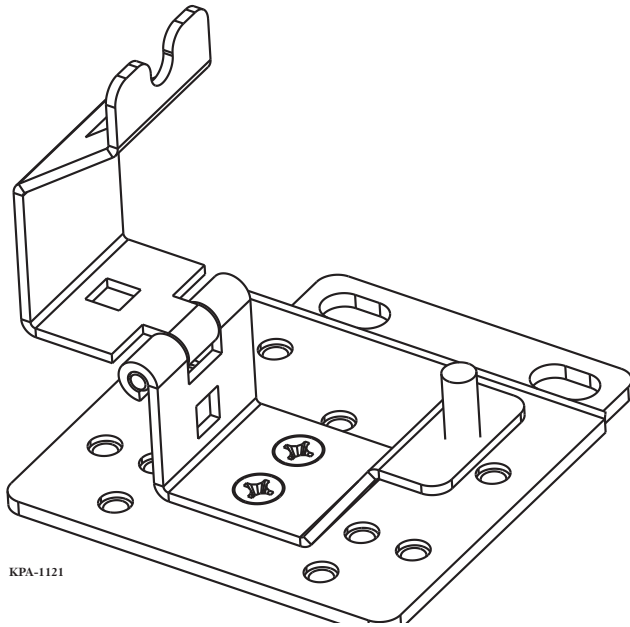

Figure 7
Step 2: Attach the UCC clamshell to the strain-relief bracket as shown in Figure 7.
Step 3: Attach the strain-relief bracket to the housing (Figure 7).